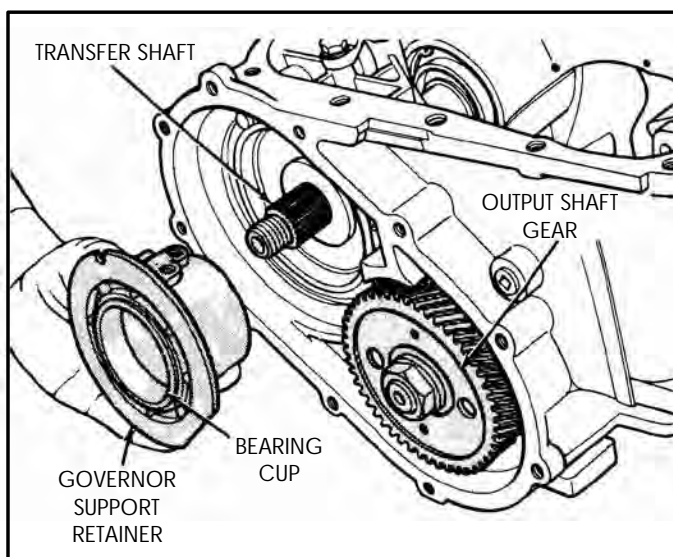

Figure 122
7. Remove governor support retainer, as shown in Figure 122.